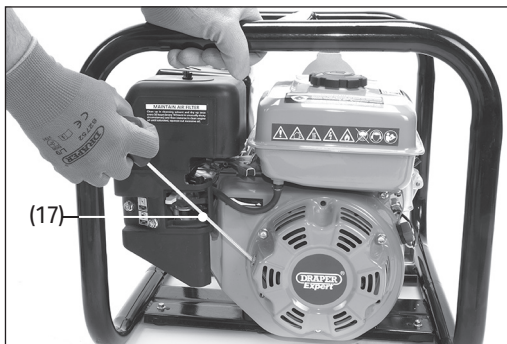

Fig. 13
5. Gently pull on the recoil starter (17) until resistance is felt, then pause and pull it out rapidly (Fig. 13).